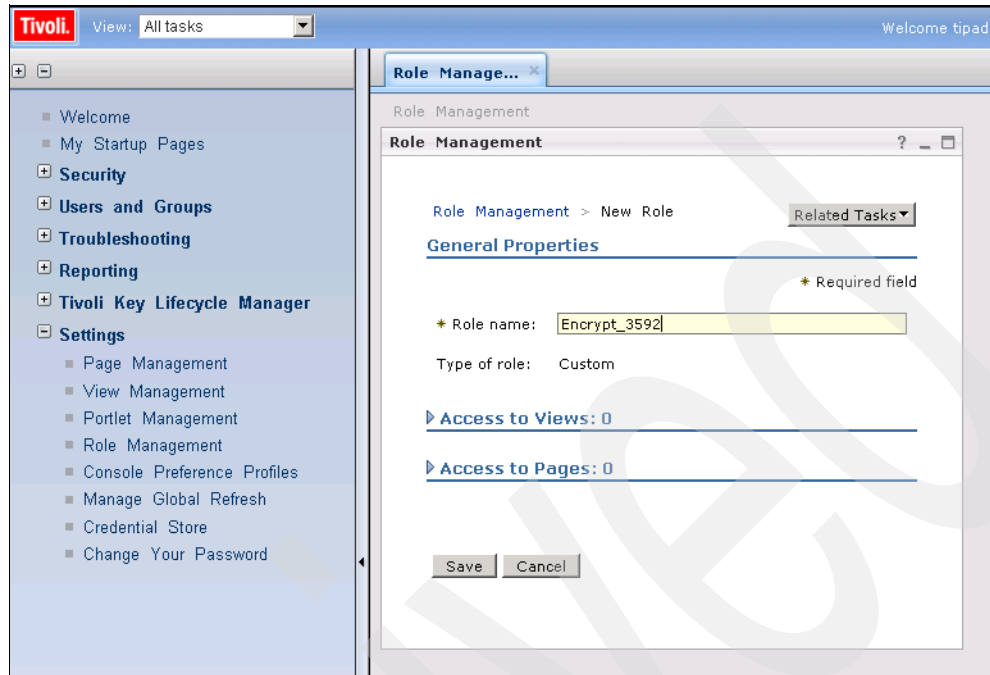

Figure 9-35 New role
5. Enter the **Role name**. This must match the device group name that was created previously. Click **Save** (Figure 9-35).